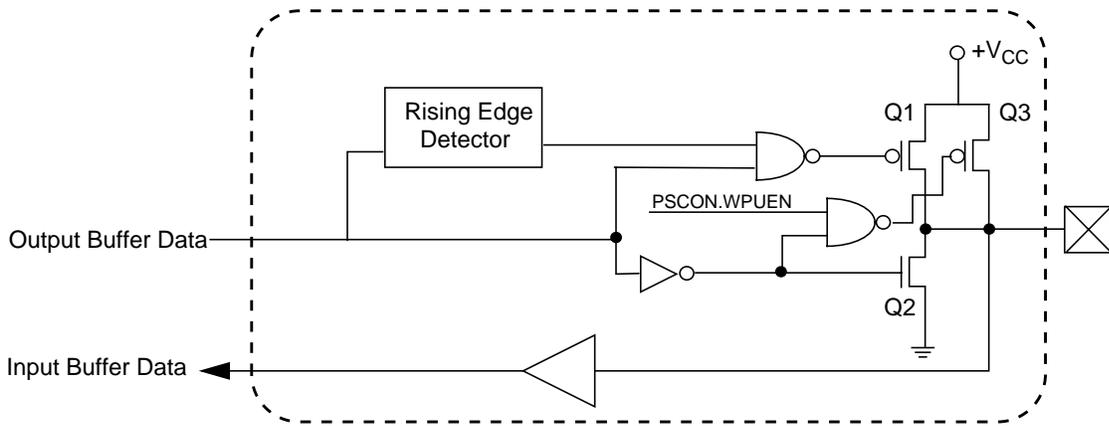

Figure 12-3. Quasi Bidirectional Buffer
The quasi-bidirectional drivers have an open drain output (Q2), an internal pull-up (Q3) and a low impedance pull-up (Q1). Q2 pulls the signal low whenever the output buffer data is "0". The weak pull-up (Q3) is active whenever the output buffer data is "1" and PSCON.WPUEN is set (1). The low impedance pull-up is active whenever the PC87570 changes the output data buffer from "0" to "1", thereby reducing the low to high transition time. The low impedance pull-up active duration is determined by PSCON.HDRV field. A schematic description of this output driver appears in Figure 12-3.